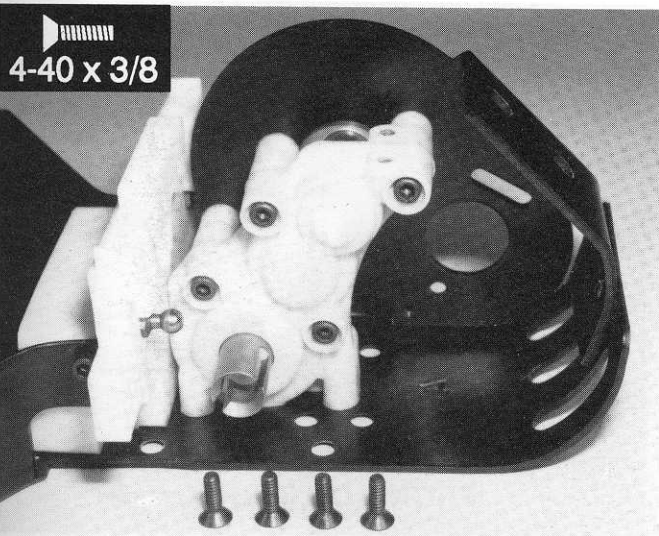

Fig. 81
□ **Fig. 81** Locate the transmission on the chassis, where shown, and install the four #6292 4/40 x 3/8" flat head screws, from Bag F, through the bottom of the chassis into the transmission. Leave the screws very loose; we'll tighten them later.